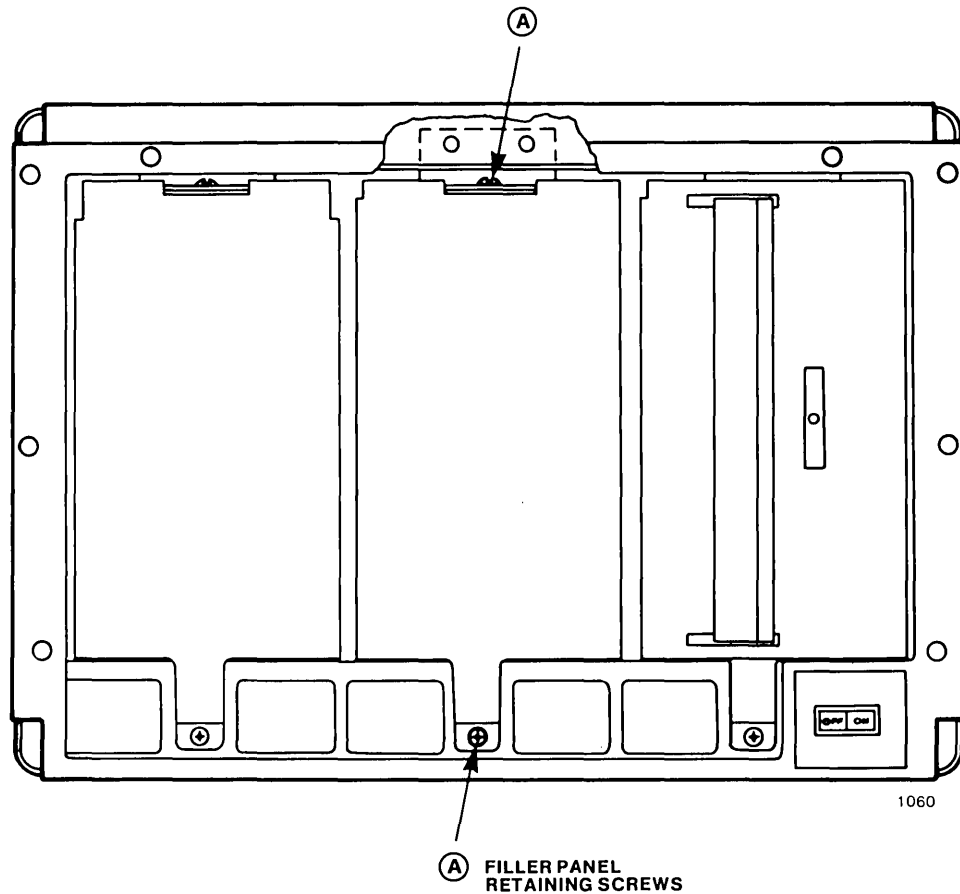

Figure 4-4. Filler Panel Retaining Screw Locations
5. Remove the two screws (see Figure 4-4) securing the filler panel to the Peripheral Chassis and remove the filler panel.